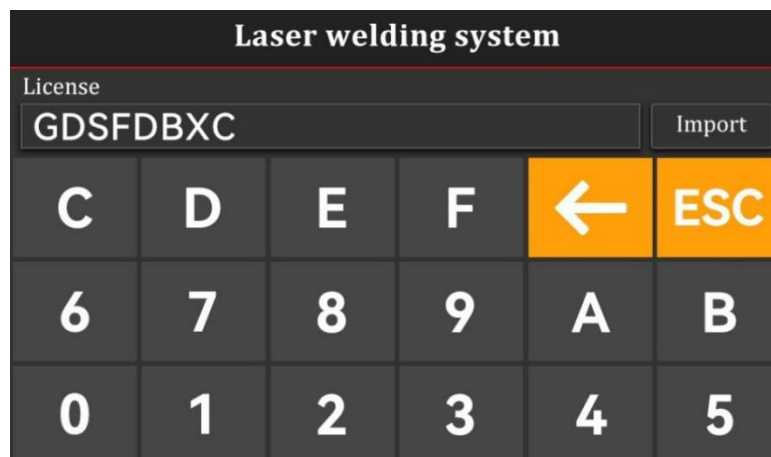

Figure 3-7 Monitoring interface - Auxiliary status bar - Ground lock anti-shake password
1. Click “Device Authorization “and set the parameter range on the password page. For example, set the password “fffffaa300” on the password page. Among them, “fffffaa” indicates ground lock anti-shake parameter and “300” indicates 300ms. As shown in Figure 3-7;